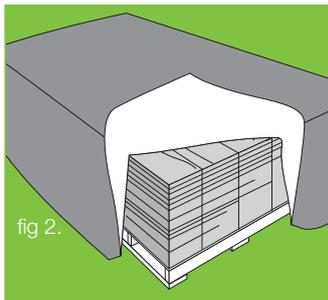

fig 2.
- **PROTECTED** with a waterproof covering, if storage outside is unavoidable (figure 2).